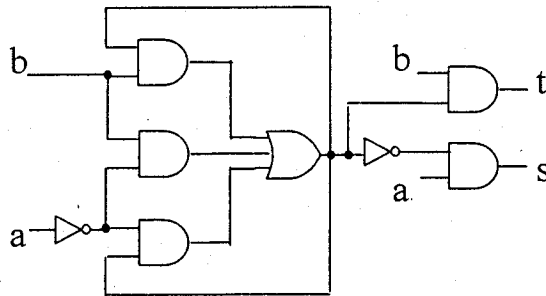

Figure 2c Asynchronous sequential circuit
- c) Figure 2c illustrates an asynchronous sequential circuit